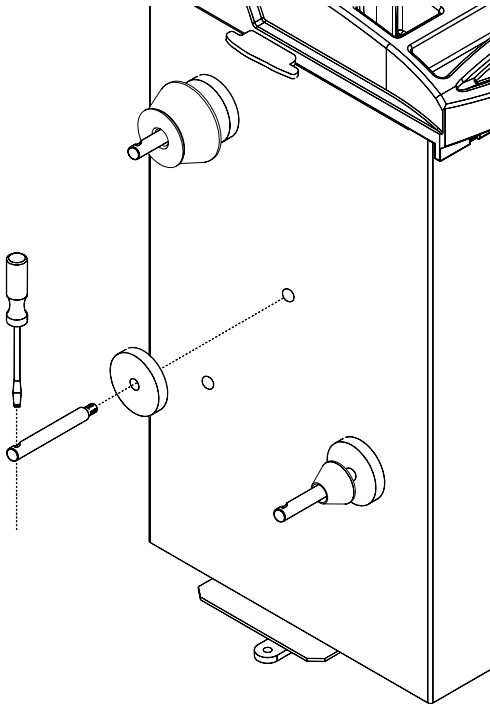

Figure 6
B. Install the accessory pins (Fig.6). Tighten firmly.